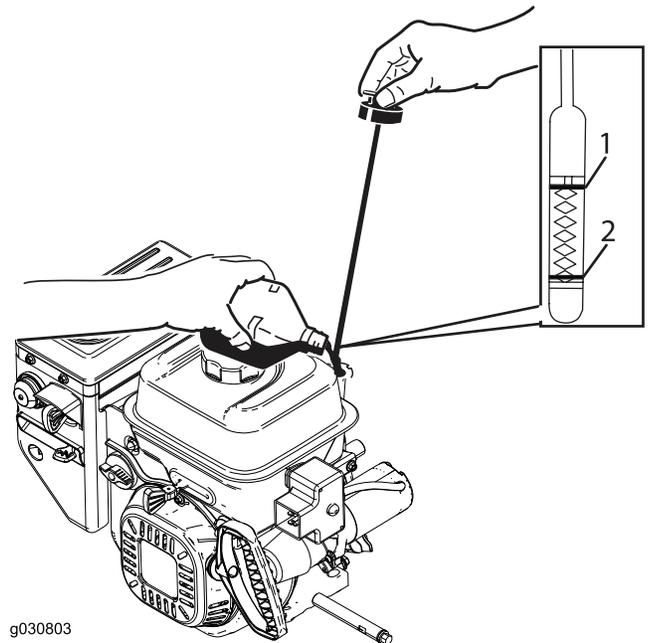

Figure 19
1. Remove the dipstick and **slowly** pour oil into the oil fill tube to raise the oil level to the Full mark on the dipstick. **Do not overfill** (Figure 19). Refer to (page).